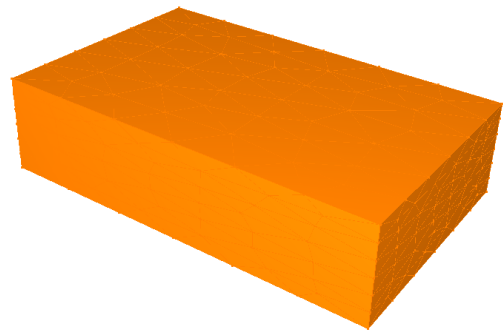

Figure 5: Skin2 collision
- Collision model: triangles (tetra2triangle): Fig 5